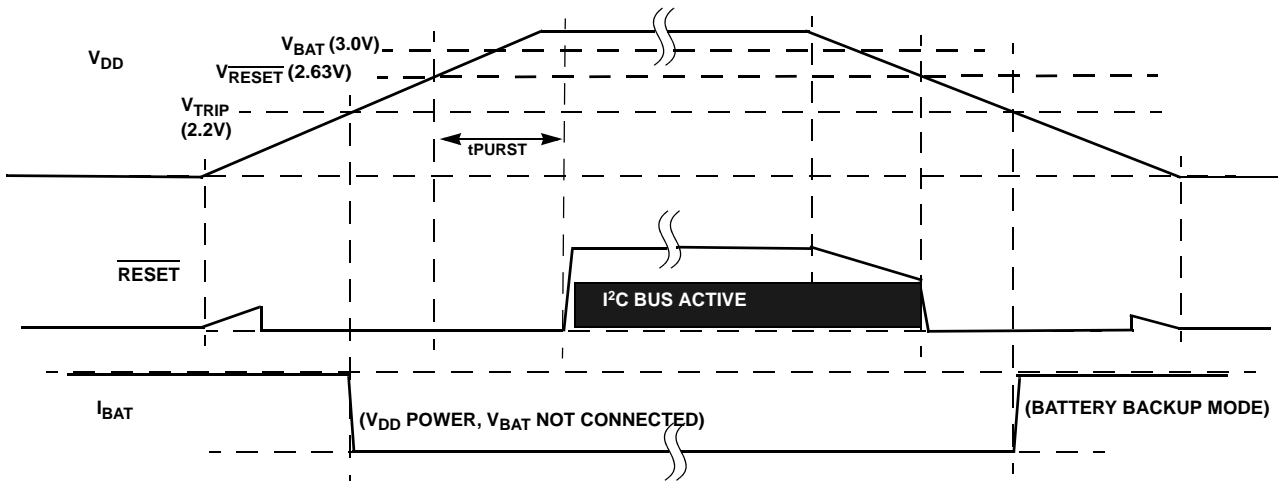

FIGURE 29. EXAMPLE RESET OPERATION IN MODE A OR C
- Mode A - In this mode, selection bits indicate a low VDD switchover combined with I2C operation in battery backup mode. In actuality the VDD will go below V $\overline{\text{RESET}}$  before switching to battery backup, which will disable I2C ANYTIME the device goes into battery backup mode. Regardless of the battery voltage, the I2C will work down to the V $\overline{\text{RESET}}$  voltage (see Figure 29).
- Mode C - In this mode, the selection bits indicate a low VDD switchover combined with no communications in battery backup. Operation is actually identical to Mode A with I2C communications down to  $V_{DD} = V_{\overline{\text{RESET}}}$ , then no communications (see Figure 29).